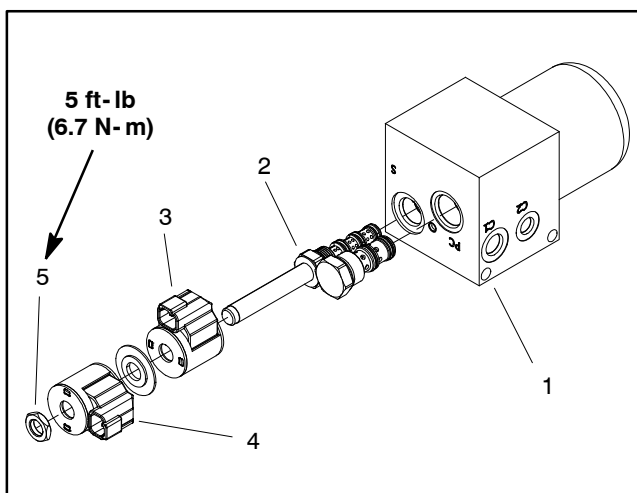

Figure 22
Two (2) identical hydraulic solenoid valve coils are used on the Sand Pro hydraulic manifold (Fig. 22). The coils allow shifting of the hydraulic valve to cause the rear attachment to raise or lower and are energized when the attachment switch on the right motion control handle is pressed by the operator.